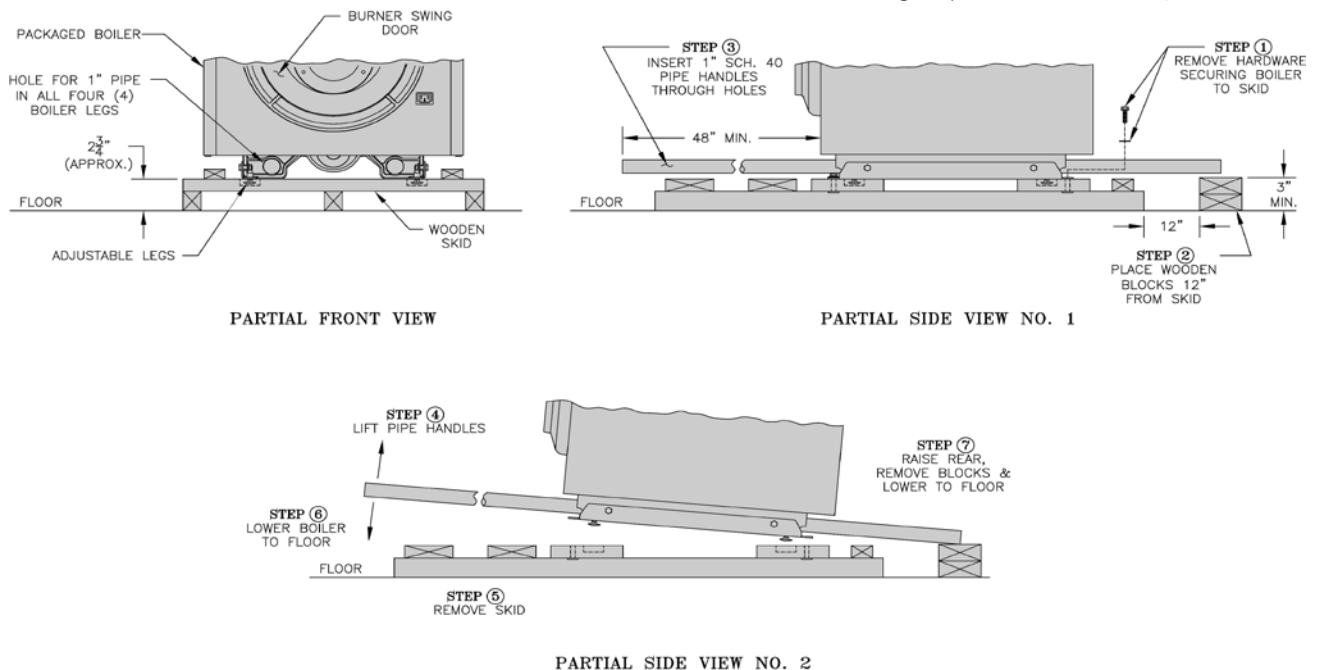

Figure 3: Packaged Boiler Removal from Skid
1. To reduce the risk of damage to boiler jacket, use the following procedure to remove from skid, see Figure 3:
Step 1. Boiler is secured to base with (4) 5/16" cap screws, (2) in front and (2) in rear of shipping skid, see Figure 3. Remove all securing hardware.
Step 3. Insert 1" Sch. 40 pipe handles through leg hole in front and rear legs. Center end of pipe on wooden blocks as shown in Figure 3.
Step 7. To lower rear of boiler, tilt boiler slightly forward by pushing on smokebox collar or lift pipes protruding through rear legs until wooden blocks can be removed (see Figure 3). Slowly allow the weight of the boiler to tilt backward until rear legs rest on floor.